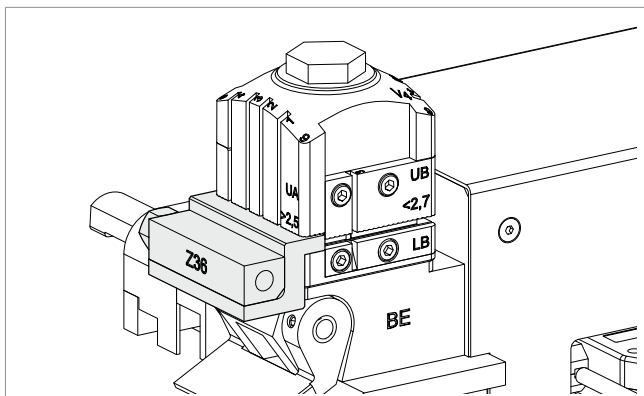

Fig. 133
- 6) Install the Z36 template for the BE-V4 clamp (Fig. 133). Close the clamp.